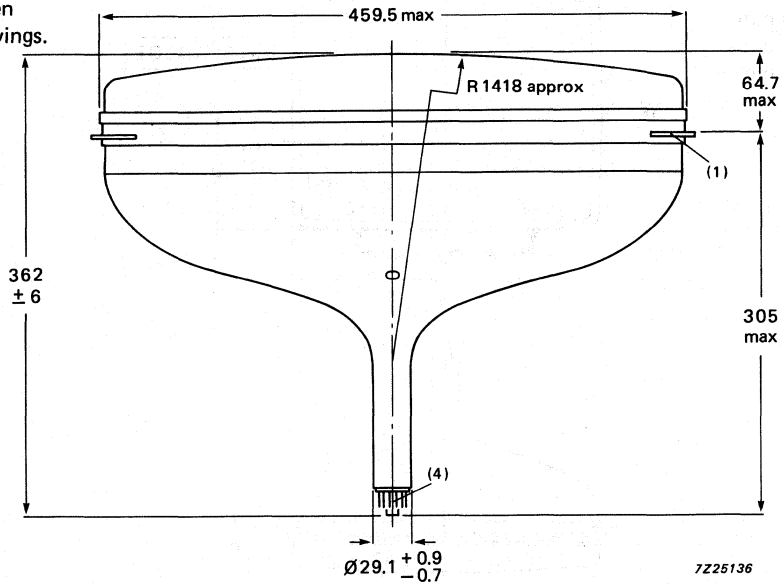

Fig. 2
**MECHANICAL DATA** (see Figs 2 to 9)